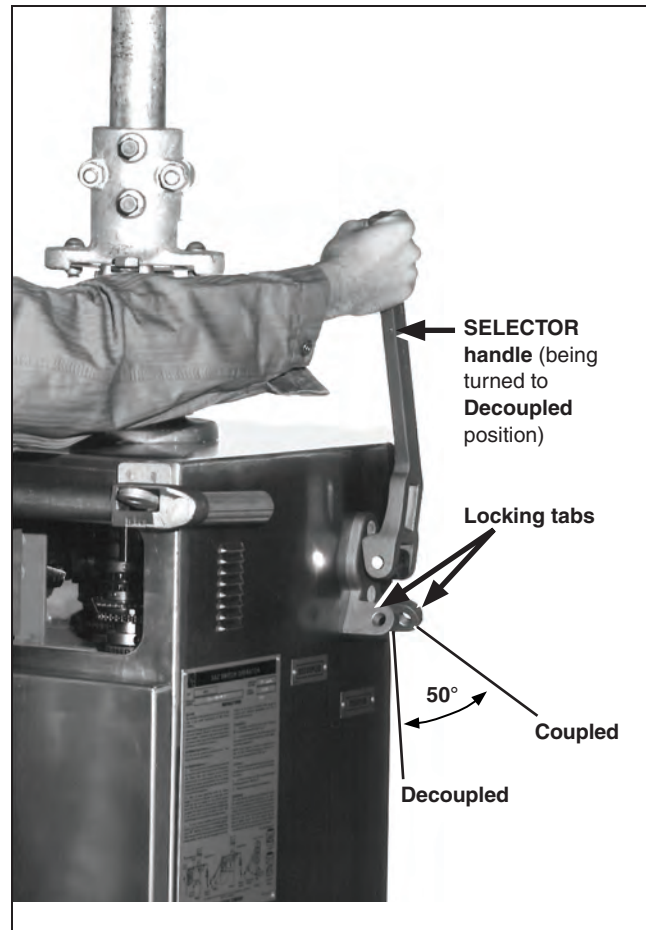

Figure 59. Selector handle operation.
- STEP 1.** Swing the **SELECTOR** handle upright and slowly rotate it clockwise 50° to the **Decoupled** position. See Figure 59.